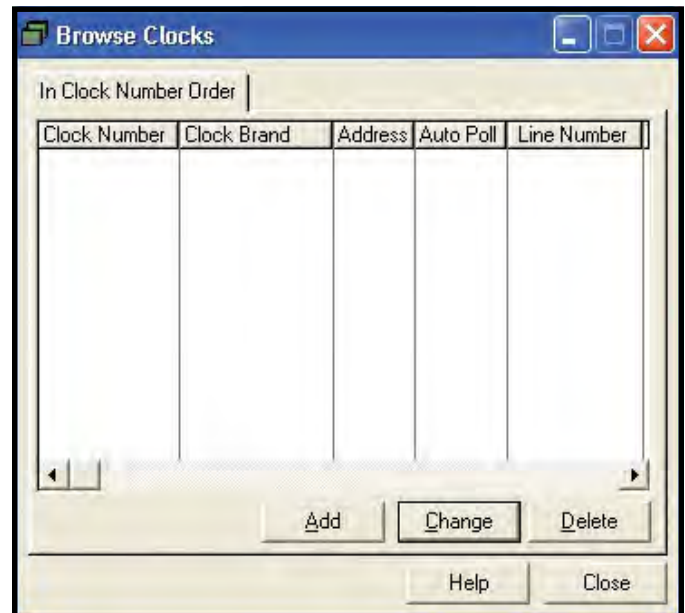

Figure 108. Out-of-the-Box™, Browse Clocks window
- IX. Click the “Add” button in the “Browse Clocks” window (see Figure 108).